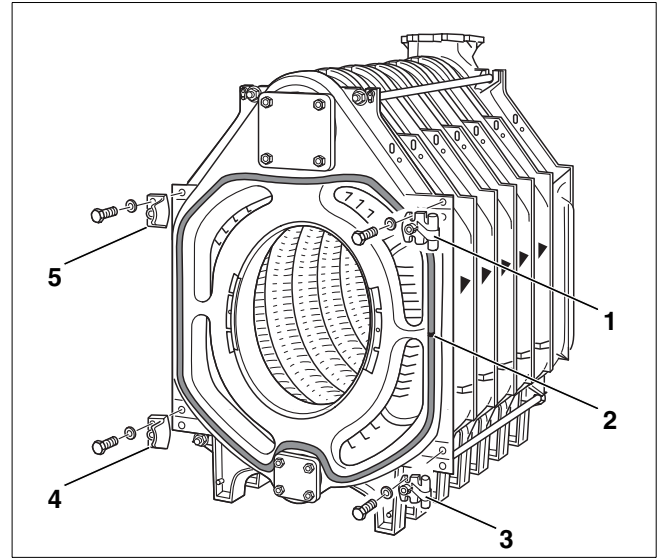

Fig. 28 Assembly – Fitting hinge knuckles and strikers
- At intervals of 15 to 20 cm, place a few drops of Silastik adhesive in the groove for the sealing rope in the front section around the openings into the combustion chamber and hot-gas passes (Fig. 28).
- Fit the GP sealing rope into the groove in the front section. When this is done the joint in the sealing rope should be positioned at the side (Fig. 28, **ref. 2**).
- For a right-hung door, screw each of the hinge pintles to the front section with two M12 x 55 mm machine bolts as shown in the illustration (Fig. 28, **ref. 1 and 3**). For a left-hung door, screw them on in the same way on the left-hand side.
- For a right-hung burner door, screw each of the bevelled strikers for the door to the front section with two M12 x 55 mm machine bolts as shown in the illustration (Fig. 28, **ref. 4 and 5**). For a left-hung door, screw them on in the same way on the right-hand side.